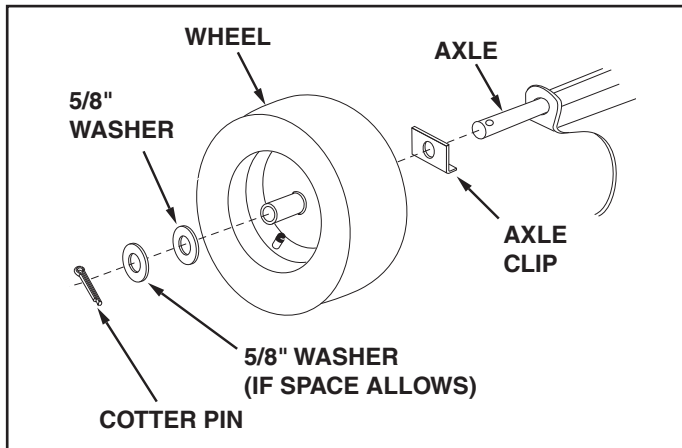

FIGURE 3
- Assemble an axle clip, a wheel and a 5/8" washer onto each end of the axle. Assemble a second 5/8" washer onto each end of the axle if space allows. Secure both wheels in place using two cotter pins. See figure 3.